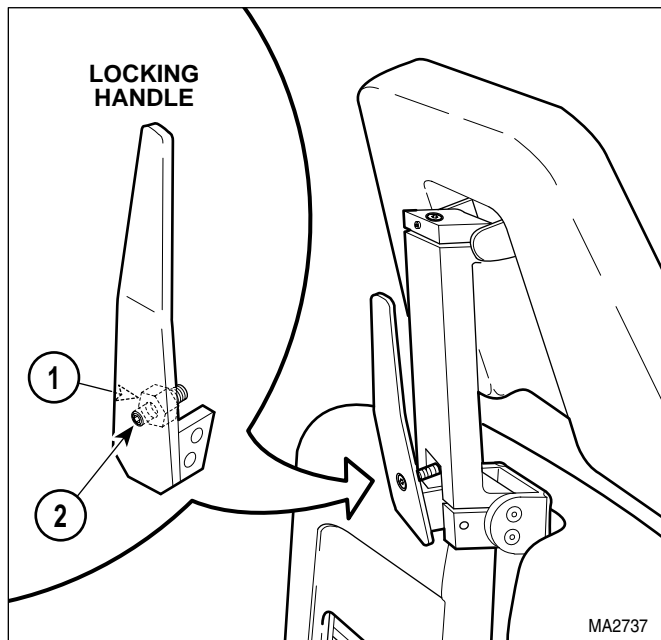

Figure 4-35. Headrest Locking Handle Stop Adjustment
- (1) Loosen nut (1, Figure 4-35).
- (2) Unlock locking handle. Push on locking handle until it reaches a point where the locking handle wants to lock itself by going over center; then allow locking handle to go over center a few degrees. Hold the locking handle in this position and adjust stop screw (2) so the locking handle will be forced to stop in this position each time it is locked.
- (3) Tighten nut (1).